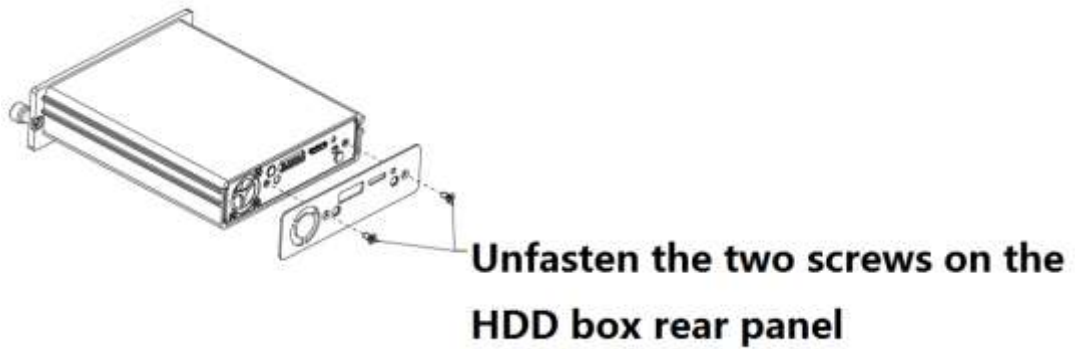
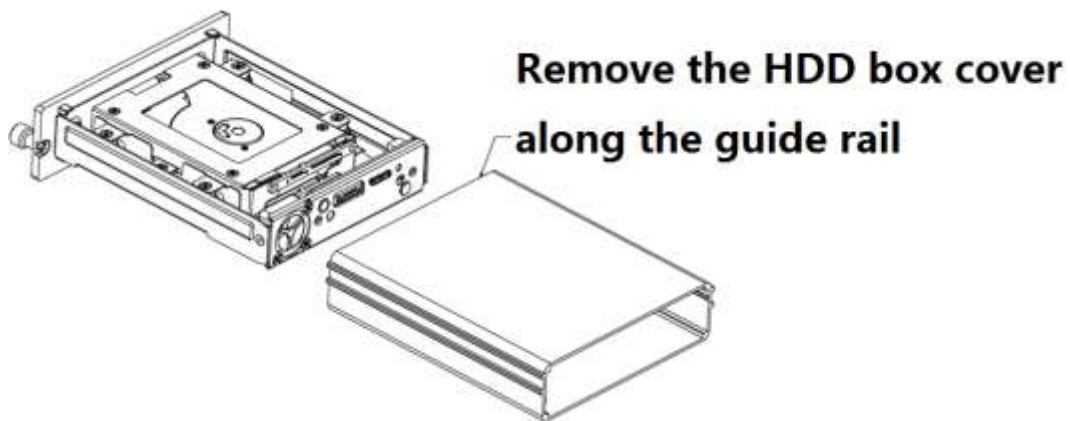

Figure 3-2
Figure 3-3
Step 2 Unfasten the two screws on the HDD box rear panel. Remove the rear panel and then remove the HDD box cover. See Figure 3-2 and Figure 3-3.